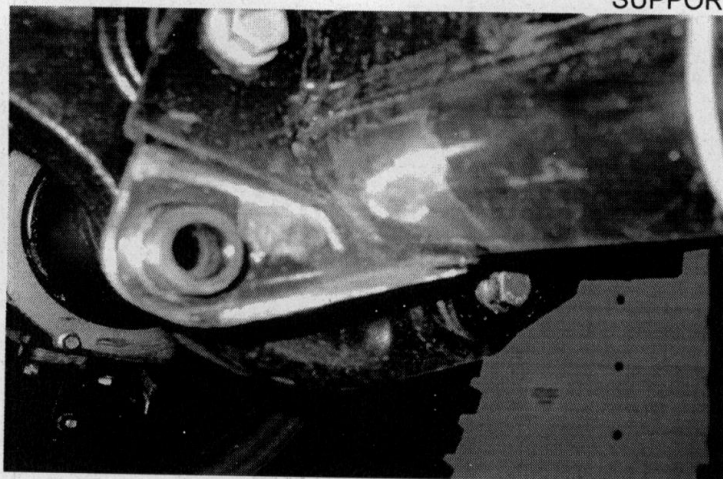

Fig 4.
- 9.14 Clean/sand area where the brackets are to be welded on the axle, see fig 4.